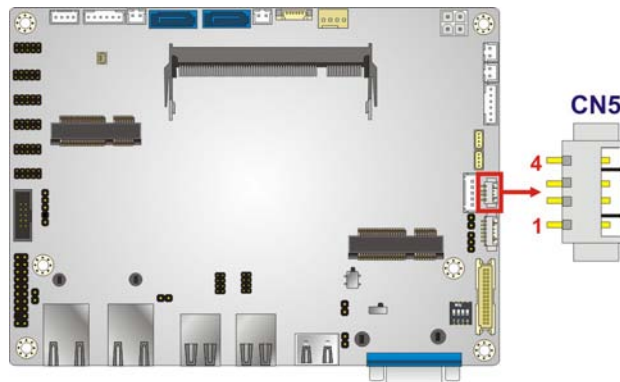

Figure 3-16: LVDS LED Connector Location
- CN Location: See **Figure 3-16**